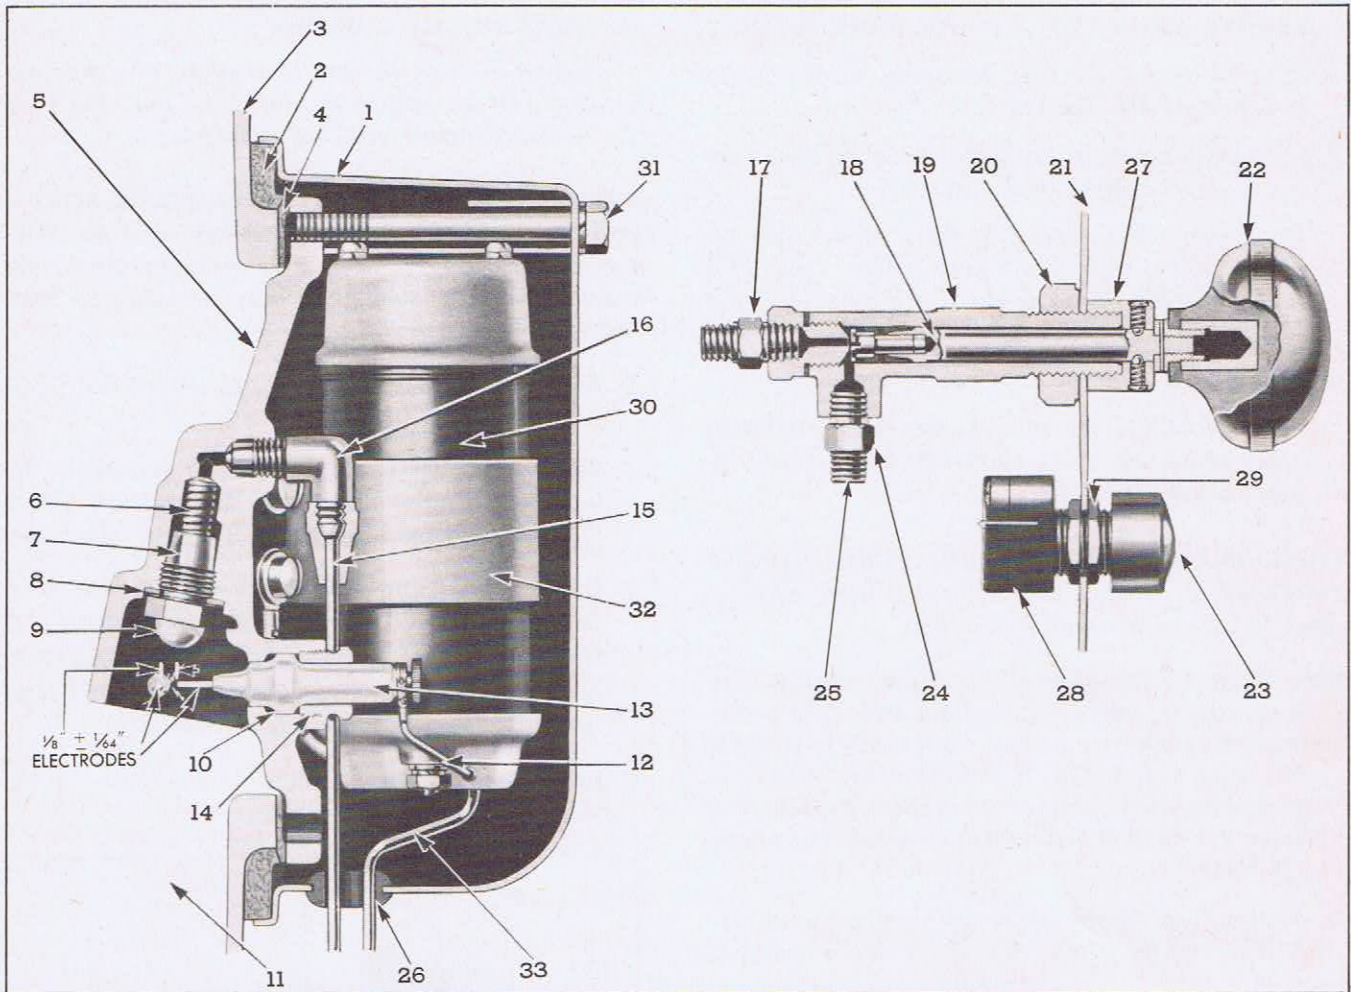
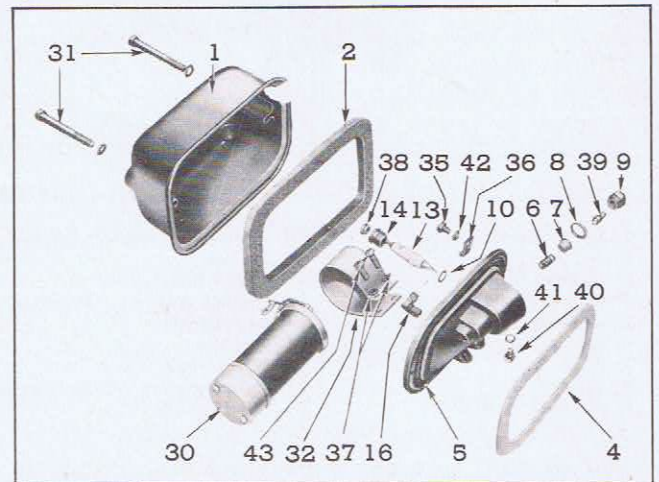

FIG. 1—AIR HEATER ASSEMBLY.
FIG. 2—AIR HEATER DETAILS AND RELATIVE LOCATION OF PARTS.
To assist in engine starting under low temperature conditions, an air heater assembly—described below and illustrated in Fig. 1—has been provided.
The air heater shown in Fig. 1 preheats the in-going charge of air to the cylinders sufficiently to insure an engine start at freezing temperatures, providing the lubricating oil in the engine is of the viscosity recommended for winter use, so that sufficiently high engine cranking speeds are possible with fully charged batteries. One heater unit is provided on the engine.
INSTALLATION—The general details of the installation of the air heater are shown in Fig. 1. The unit comprising the nozzle, filter, and coil is mounted to the cylinder block in place of the hand hole cover plate. The pressure pump and ignition switch are mounted in the instrument panel, convenient to the engine operator.
SERVICE—If engine fails to start after two or three heater pump strokes, made while cranking the engine with wide open throttle, it is advisable to stop cranking and check for possible causes of failure. Assuming that the engine is in running order and cranking speed is 80 r.p.m. or over, the heater should be investigated for (a) *Failure of Ignition* and (b) *Poor Oil Spray*. To make this investigation, the heater should be removed from its position on the cylinder block and reconnected outside of engine in such a position that the heater operation can be readily observed. To remove the heater from the cylinder block, refer to Figs. 1 and 2 and proceed as follows:
1. Remove two bolts (31) attaching cover (1) to heater body (5). See Fig. 1.
2. Lift heater cover (1) off heater body (5) and slide cover down battery lead wire (33).
3. Disassemble fuel line (15) from elbow (16) on heater body, and disconnect battery lead (33) from coil (30). Slide cover (1) off wire (33) and fuel line (15) to heater body (5). Fig. 1.
4. Remove felt seal (2) from heater body.
5. Remove bolt (34) attaching heater body to cylinder block; then, lift heater body (5) away from cylinder block (3).
A cone-shaped discharge of oil should be emitted from the nozzle (9), Fig. 1, when the pump is operated.
Check gap and, if necessary, reset wire electrode to approximately $\frac{1}{8}$ ". If gap is correct, then remove porcelain electrode by removing threaded gland and withdrawing electrode assembly. Care should be taken that small copper gasket (10) under the electrode is not dropped out and lost. Porcelain may be cleaned by washing off in gasoline and scraping or sanding off any carbon accumulation. Reassemble as indicated by Fig. 1.
2. Remove insulator and electrode assembly by loosening insulator nut (14), taking care not to lose small copper gasket (10) under electrode.
3. Unscrew fuel line elbow (16) and remove. (See Fig. 2.)
4. Using a screwdriver, remove two screws (43) holding high tension coil strap (32) to air heater body (5). Remove high tension coil (30).
5. Remove screw (40), with wire electrode on tip, from inside of heater body.
ASSEMBLE HEATER UNIT—Refer to Fig. 2 for relative location of parts and assemble heater unit as follows:
1. Place cork gasket (4) (dry) on inner face of heater body flange (5) (see Fig. 2).
2. Attach air heater to cylinder block with bolt (34) and lock washer at center of heater body. Tighten firmly, but not too tight.
3. Place felt seal (2), shown in Figs. 1 and 2, around outside edge of heater body and next to cylinder block.
4. Make sure rubber grommet is in place on air heater cover. Thread battery lead (33) and fuel line (15) through grommet and connect lead to coil. Also connect fuel line to elbow.
5. Set heater cover (1), Fig. 1, in place. Adjust felt seal and fasten cover to heater body with two bolts and lock washers.
—The heater pump may be removed from the instrument panel as follows: (See Fig. 1).